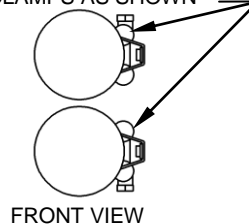

FIGURE 2
4. Remove the muffler assembly from the box and slide one supplied 27-61MSC clamp onto the back muffler tube. Refer to Figure 2 for alignment.
8. To install the front heatshield, first slide the rear portion of the heatshield over the muffler, continue to slowly slide it forward pushing the front of the shield gently into place between the frame and motor (Hint: Spread the hose clamps apart slightly to make it easier to slide them over the muffler assembly and head pipes). Make sure the muffler clamps don't interfere with the heatshields and are aligned as shown in Figure 2. Snug the heatshield clamps but **DO NOT TIGHTEN**.